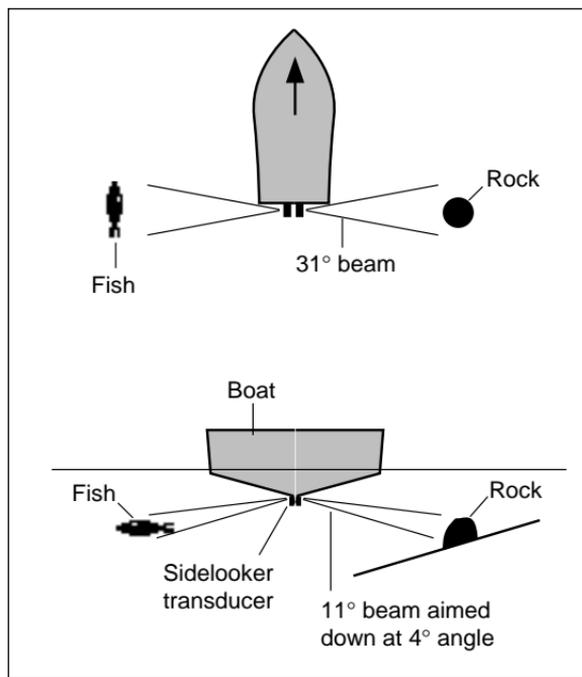

Fig. 3-10
The Sidelooker page, like the FishFinder page, displays a graph or chart. As new Sidelooker echoes are received, the chart scrolls from the top to the bottom of the display. The display is divided by a boat symbol and centerline indicator. The optional Sidelooker transducer transmits two beams. The two sides of the Sidelooker page represent the port and starboard Sidelooker beams. See Fig. 3-10.
- Side range** This is the maximum distance the unit will be able to see using the current range setting. Remember that the sound waves move out at a shallow angle, so this distance is measured **sideways**. See Fig. 3-10. The units used here are chosen using the entry for Depth Units in the System Setup display. If you have selected feet (FT) or fathoms (FA), the distance shown here will be measured in feet. If you have selected meters (M), the distance shown here will be in meters.
- Fish symbol/distance** The fish symbol shows that the unit has detected a fish. In general, a larger symbol indicates a larger fish. The number beside the symbol shows the distance from the boat to the fish. Remember that this distance is measured **sideways**. See Fig. 3-10. The units used here are chosen using the entry for Depth Units in the System Setup display. If you have selected feet (FT) or fathoms (FA), the distance shown here will be measured in feet. If you have selected meters (M), the distance shown here will be in meters.